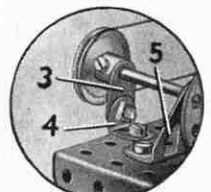

Fig. O.6a
The Bolts (1) are fitted with lock-nuts, so that the parts they attach are free to pivot. Bearings for a 2" Rod, the end of which is seen at (2), are provided by a Fishplate (3) Fig. O.6a, bolted to an Angle Bracket (4), and a Trunnion (5).